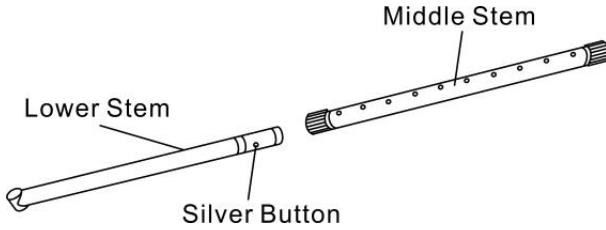

Fig.3
3. on the lower stem, insert to the middle stem (See Fig.3).